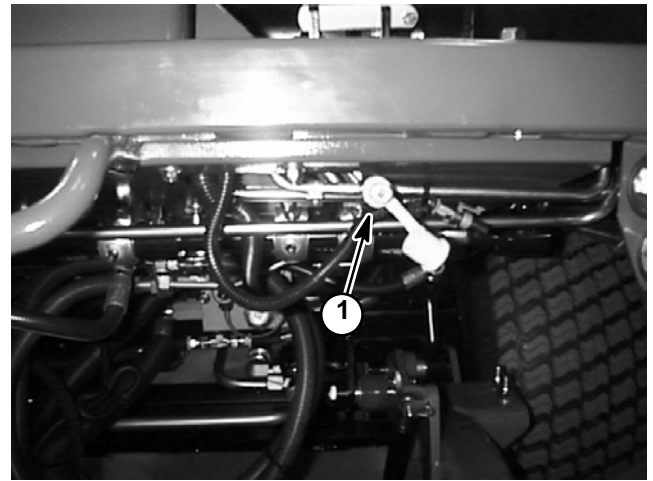

Figure 39
3. Connect a 5000 PSI (350 bar) gauge onto steering circuit pressure test port (Fig. 39).